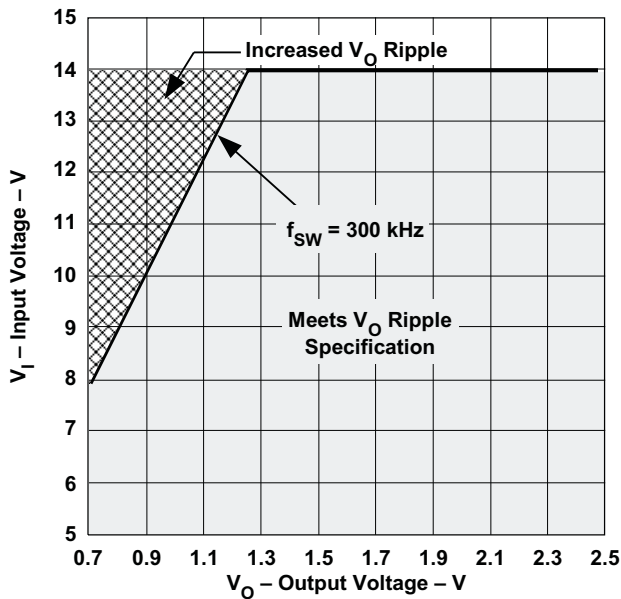
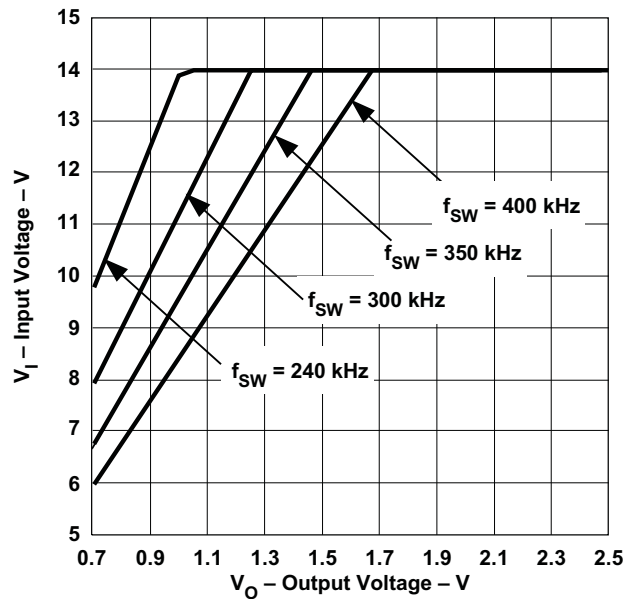

Figure 25. VO Ripple Regions at 300 kHz
Figure 26. VO Ripple Regions
Synchronizing to a higher frequency and operating with a low duty cycle may impact output voltage ripple. When operating at 300 kHz, Figure 25 shows the operating region where the output voltage ripple meets the electrical specifications and the operating region where the output voltage ripple may increase. Figure 26 shows the operating regions for several switching frequencies. For example, a module operating at 400 kHz and an output voltage of 1.2 V, the maximum input voltage that meets the output voltage ripple specification is 10 V. Exceeding 10 V may cause an increase in output voltage ripple. As shown in Figure 26, operating below 6 V allows operation down to the minimum output voltage over the entire synchronization frequency range without affecting the output voltage ripple. See the ELECTRICAL CHARACTERISTICS table for the synchronization frequency range limits.
- A. For Figure 25, operation above a given curve may cause the output voltage ripple to increase (typically  $2\times$ ).
- B. For Figure 25, when operating at the nominal switching frequency refer to the 300 kHz plot.